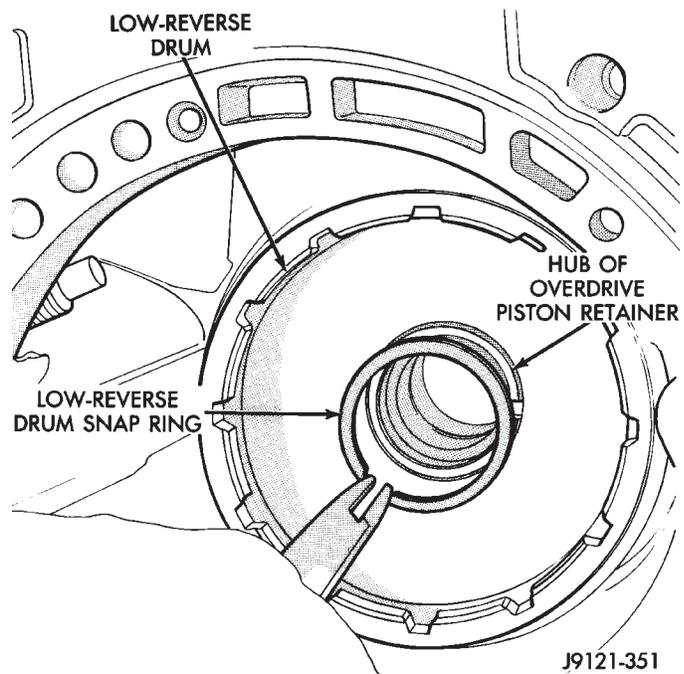

Fig. 136 Installing Low-Reverse Drum Retaining Snap Ring
(7) Install snap ring that secures low-reverse drum to hub of overdrive piston retainer (Fig. 136).